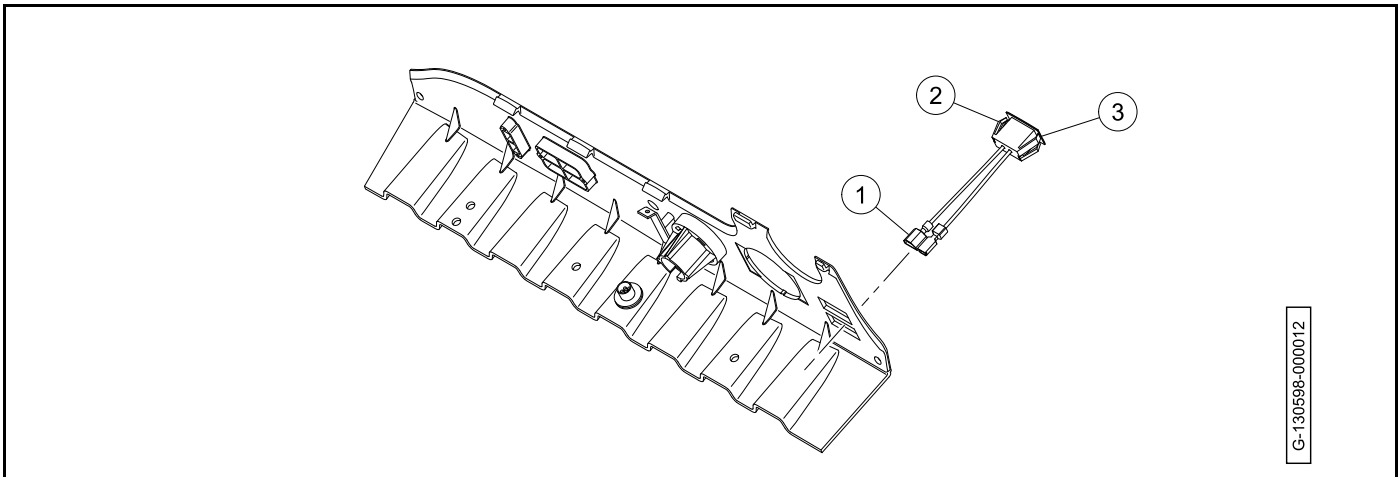

Figure 19-38 Malfunction Indicator Light (MIL)
3. Disconnect the wires (1) (**Figure 19-38, Page 19-34**). Do not allow wires to touch.
4. Push the retaining tabs (2) and remove the malfunction indicator light (3) from the instrument panel.
1. Push the malfunction indicator light (MIL) (1) into the hole in instrument panel until retaining tabs engage (**Figure 19-38, Page 19-34**).